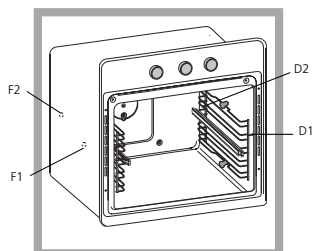

Fig.3
- Secure the two side racks with the guide rails using the holes provided on the oven walls (see Fig. 3). The holes for the left rack are situated at hole F1, F2 and the right rack at hole D1, D2.